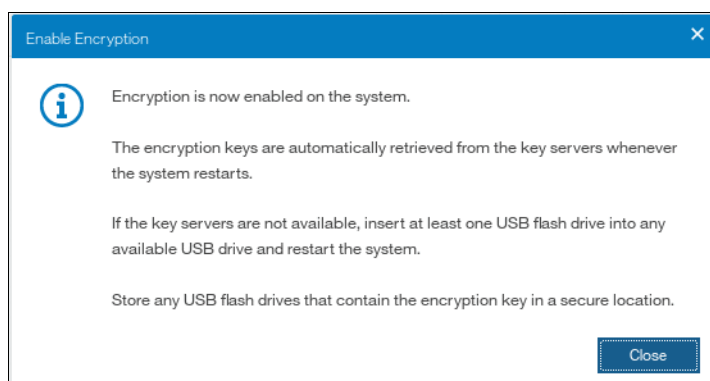

Figure 13-50 Encryption enabled message using both encryption key providers
12. If there are no errors while creating the key server object, the system displays a screen that confirms that the encryption is now enabled on the system, and that both encryption key providers are enabled (see Figure 13-50).